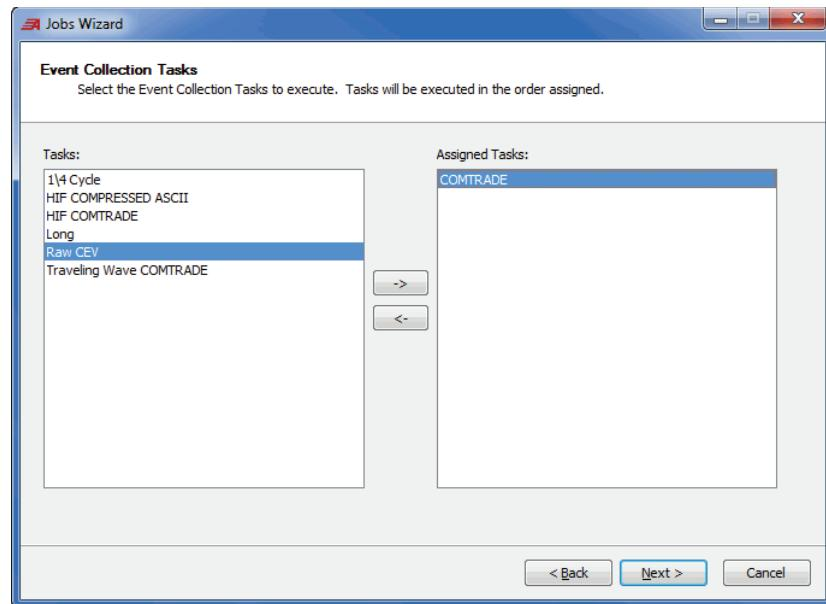

Figure 87 Event Collection Task Assignment
- Step 4. Select **Next** to open the **Event Collect Tasks** window. Select **COMTRADE** and **Raw CEV** from the **Tasks** column, use the (\rightarrow) arrow to transfer them to the **Assigned Task** box (as shown in *Figure 87*), and then select **Next**.